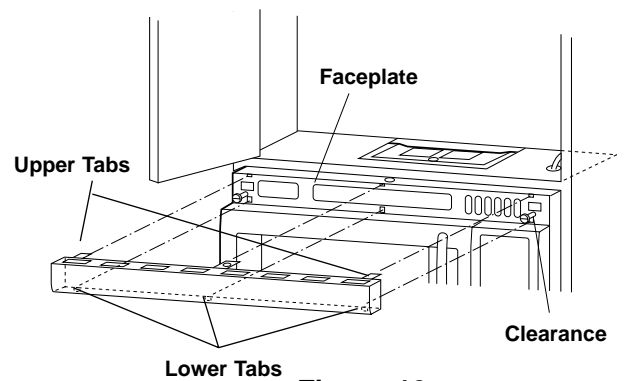

Figure 19
4. Hook the three lower tabs of Louver E into the slits of the oven faceplate. Then insert three upper tabs of Louver E into the slits of the oven faceplate. See Figure 19.
4. Insert the top tabs of hood Louver F into the 3 openings on the cavity faceplate holding Louver F at a slightly outward tilt. Rotate Louver F so the top tabs are positioned in the cavity faceplate openings. Push in the bottom of Louver F to ensure that the three bottom clips snap into the cavity faceplate. Check for proper engagement. See Figure 19.